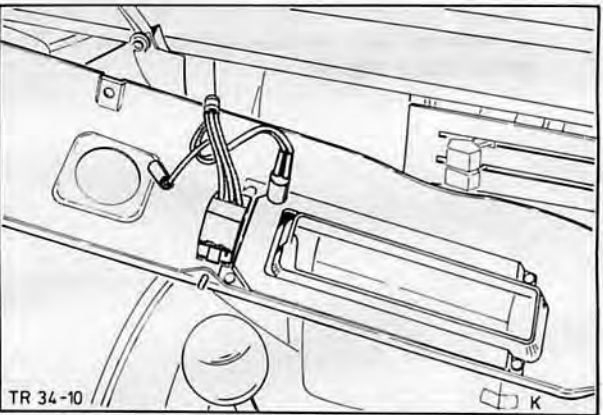

Fig. 11. Connect cables to switch and illumination
6. Install control panel bezel and secure with 2 screws. Connect cables to blower switch and symbol illumination, Fig. 11.